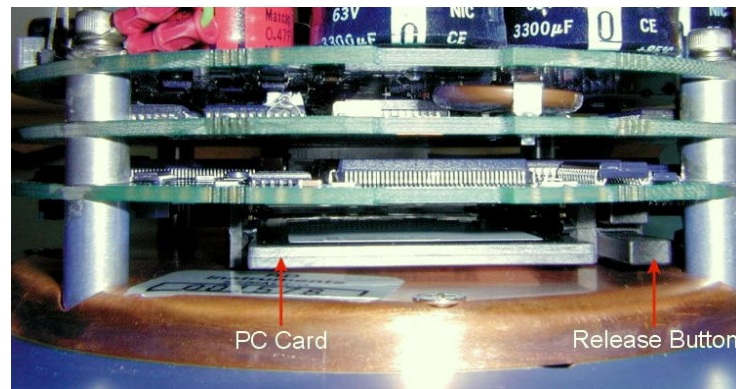

Figure 56. PC Card Recorder
The PC Card recorder is located on the Digital Signal Processor (DSP) board inside the WorkHorse's electronics (see Figure 56). To recover data, the card can be removed and used in a personal computer (PC), or left in the WorkHorse, and accessed by using *WinSC* (see the *WinSC* User's Guide).